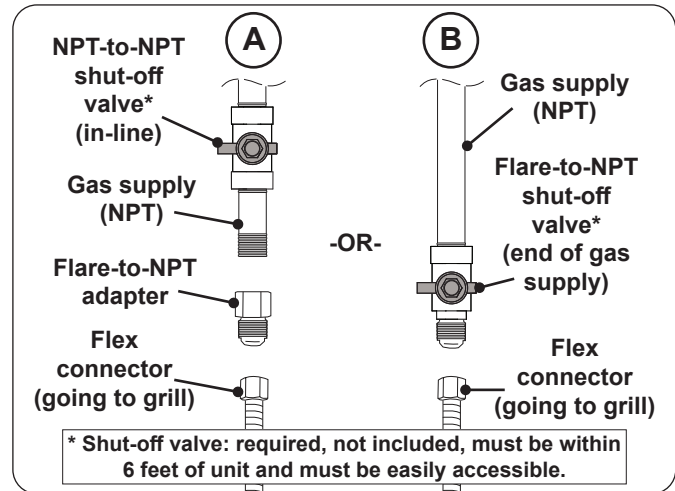

Fig. 26-2 Connecting to a gas line
- Install a flare-to-NPT adapter to the gas supply (NPT) using a pipe joint compound resistant to all gasses (see Fig. 26-2, A). Tighten securely.
- Connect the flex connector to the adapter (see Fig. 26-2, A). Tighten securely.
- Connect the flex connector to the shut-off valve (flare) (see Fig. 26-2, B). Tighten securely.